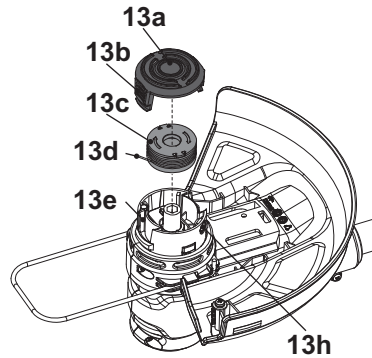

Fig. 26
3. Remove the spool (13c) from the housing (13e) (Fig. 26).